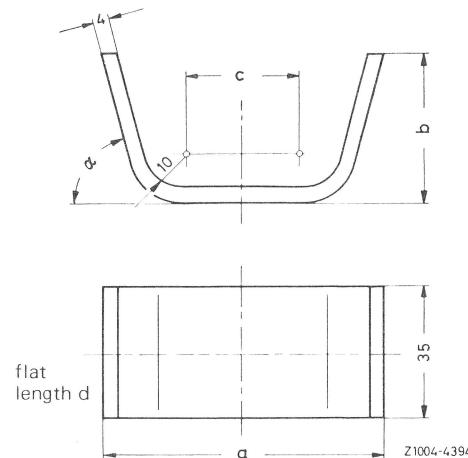

Fig. 5
Holding device for piston	self-made according to Fig. 5
Note: Holding fixture (23), is self-made according to dimensions shown in Fig. 5.